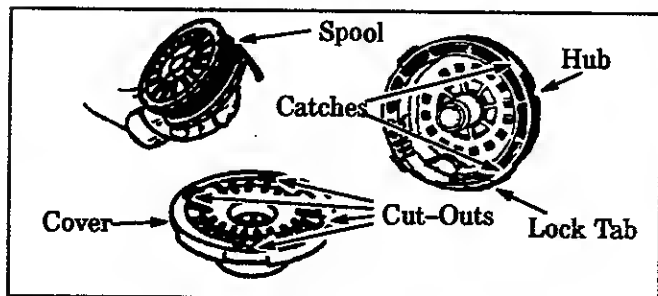

Figure 22
- b. Remove the Cover and Spool. Figure 22 .